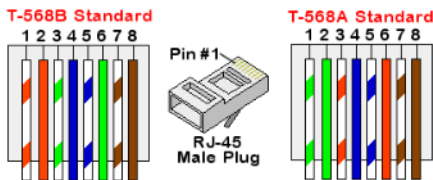

Figure 24: Standard cable wiring
- c. Insert the eight wires into an RJ45 connector, as described in *Figure 24*
8. For the switch/router side, use a pre-terminated cable or use a crimper to prepare an RJ45 communication connector: Insert the eight wires into the RJ45 connector in the same order as above (Figure 24).